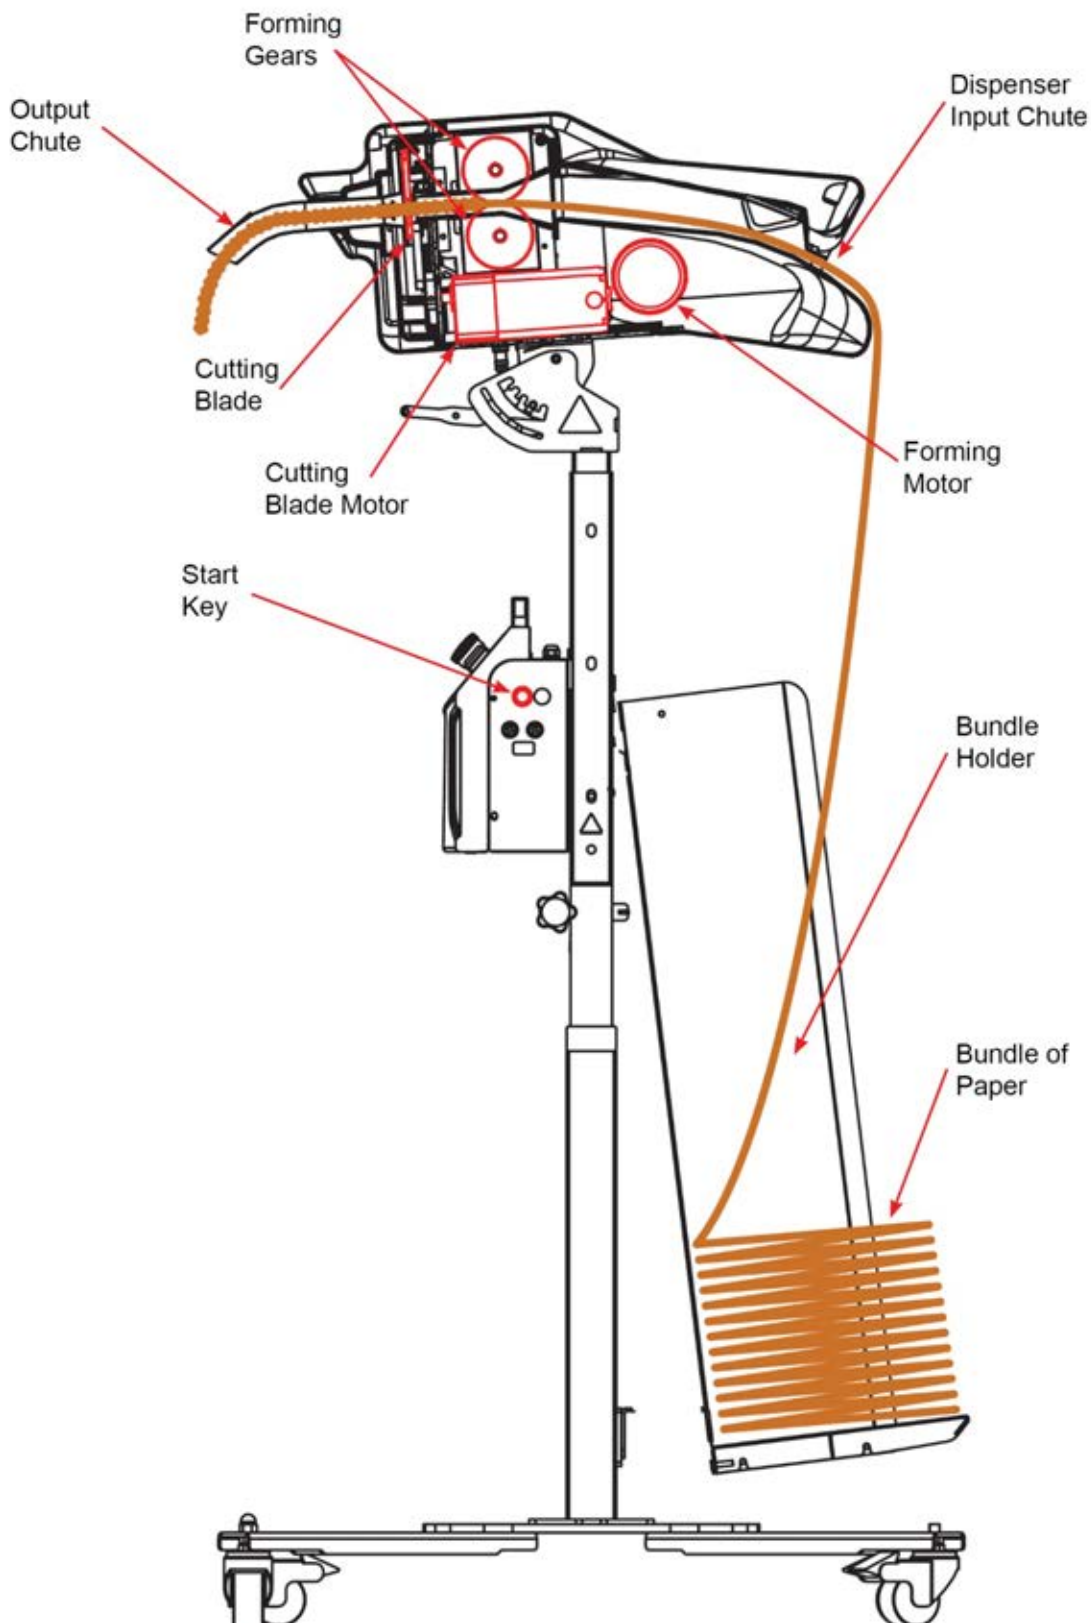

Figure 13 Paper Path
7. Place the **Paper Bundle** in the **Bundle Holder** (refer to Figure 13).
10. Insert the folded arrow of paper sheets into the **Dispenser Input Chute** (refer to Figure 13).
11. Push the folded arrow of paper sheets towards the **Dispenser Feeding Wheels** (refer to Figure 13).
14. Release the **Feed-in Button** on the **Dispenser Control Box** as soon as the string of paper void fill is visible at the **Dispenser Output Chute** (refer to Figure 13).